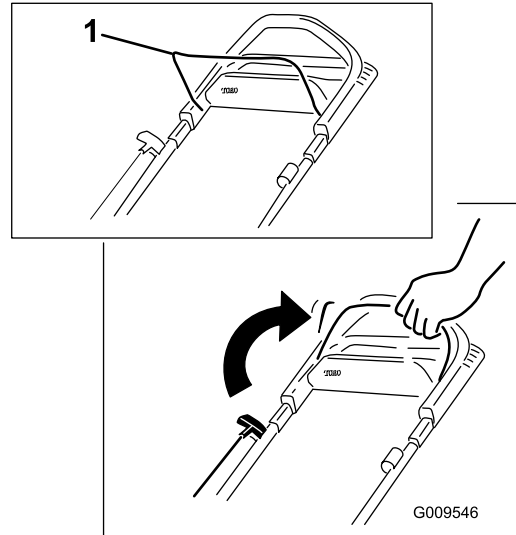

Figure 10
1. Hold the blade control bar against the handle (Figure 10).